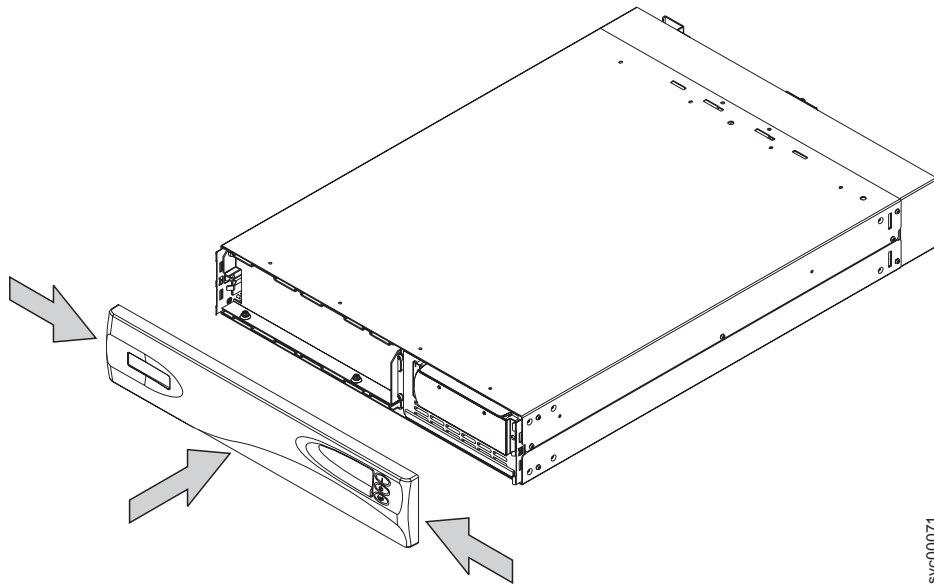

Figure 175. Replacing the front panel of the 2145 UPS
3. Replace the front panel by pressing the sides inward and pushing both ends towards the 2145 UPS. See Figure 175 on page 386.